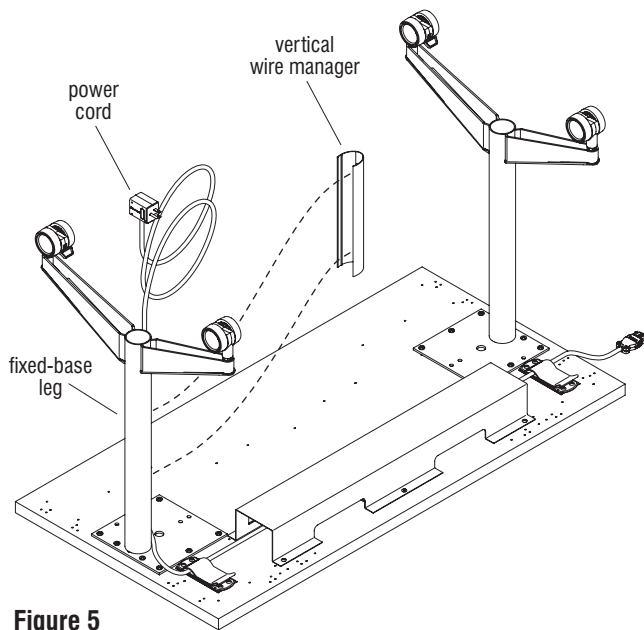

Figure 5
1. Route the power cord along the leg, then snap the wire manager to the post with the cord in between. Vertical wire manager easily snaps on and off the leg, to add or reconfigure cords (Figure 5).